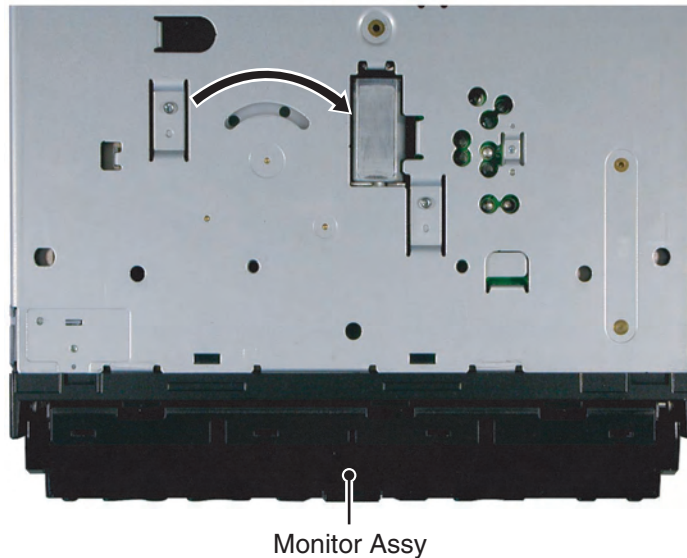

Fig.1
1. Rotate the gear using a screwdriver, etc. ($\phi 2.8$ or smaller) from the slit on the bottom surface of the main unit (Fig.1) in the direction of the arrow, and move the Monitor Assy to OPEN position.